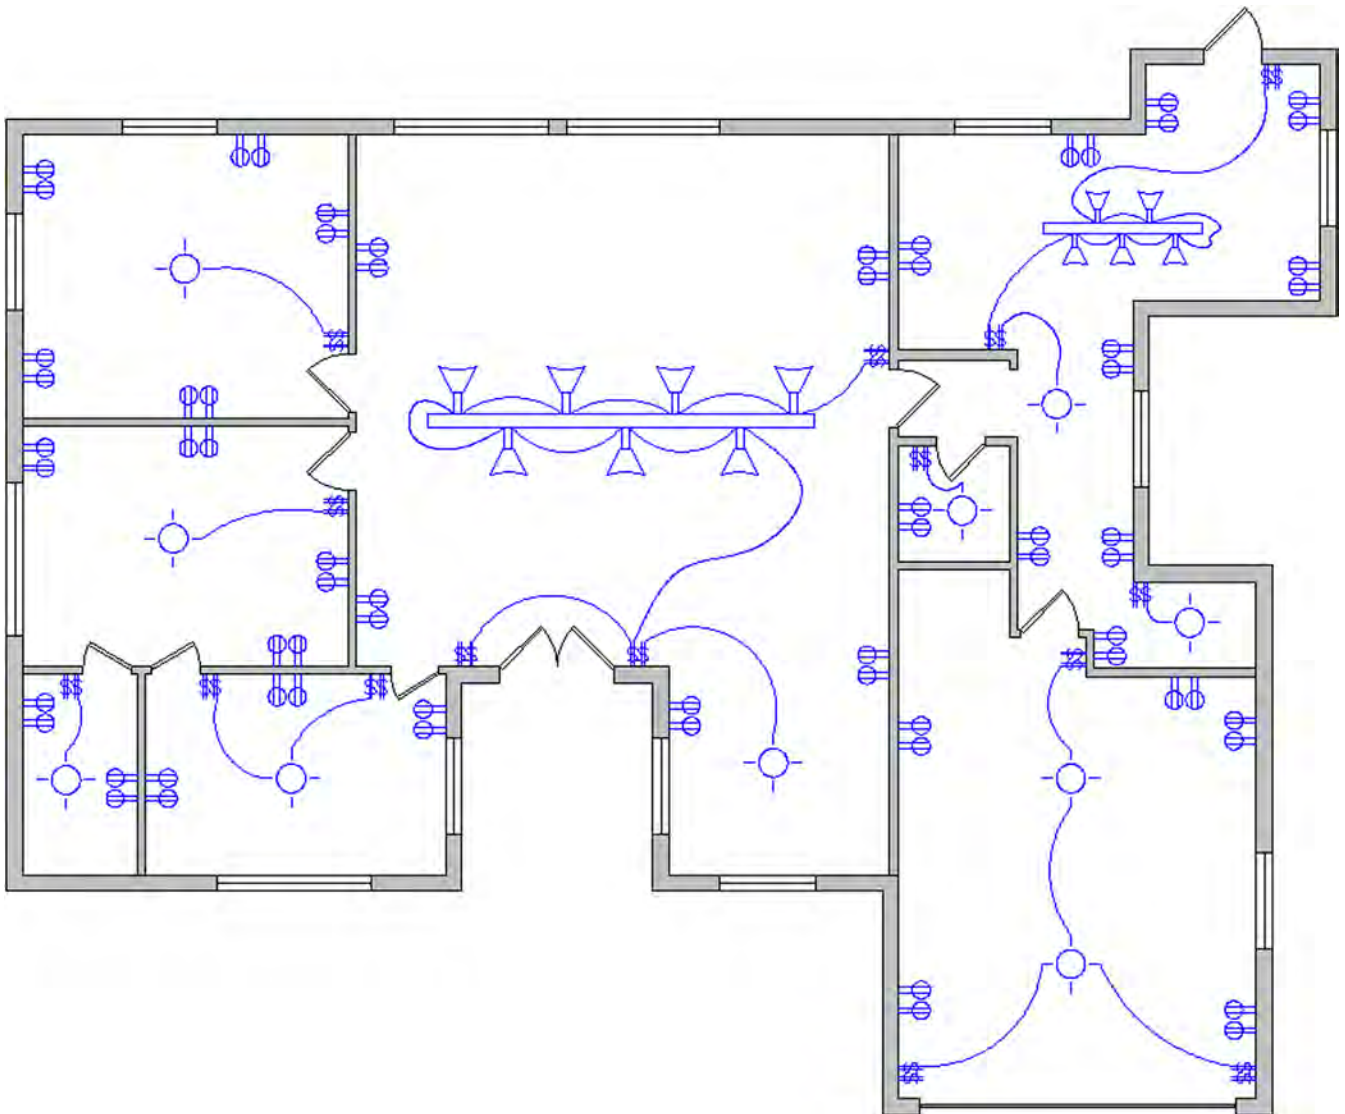

FIGURE 14.46
Step 3. Lay out the electrical symbols as seen in the floor plan in Figure 14.46. Some of the wiring runs are splines and some are arcs.